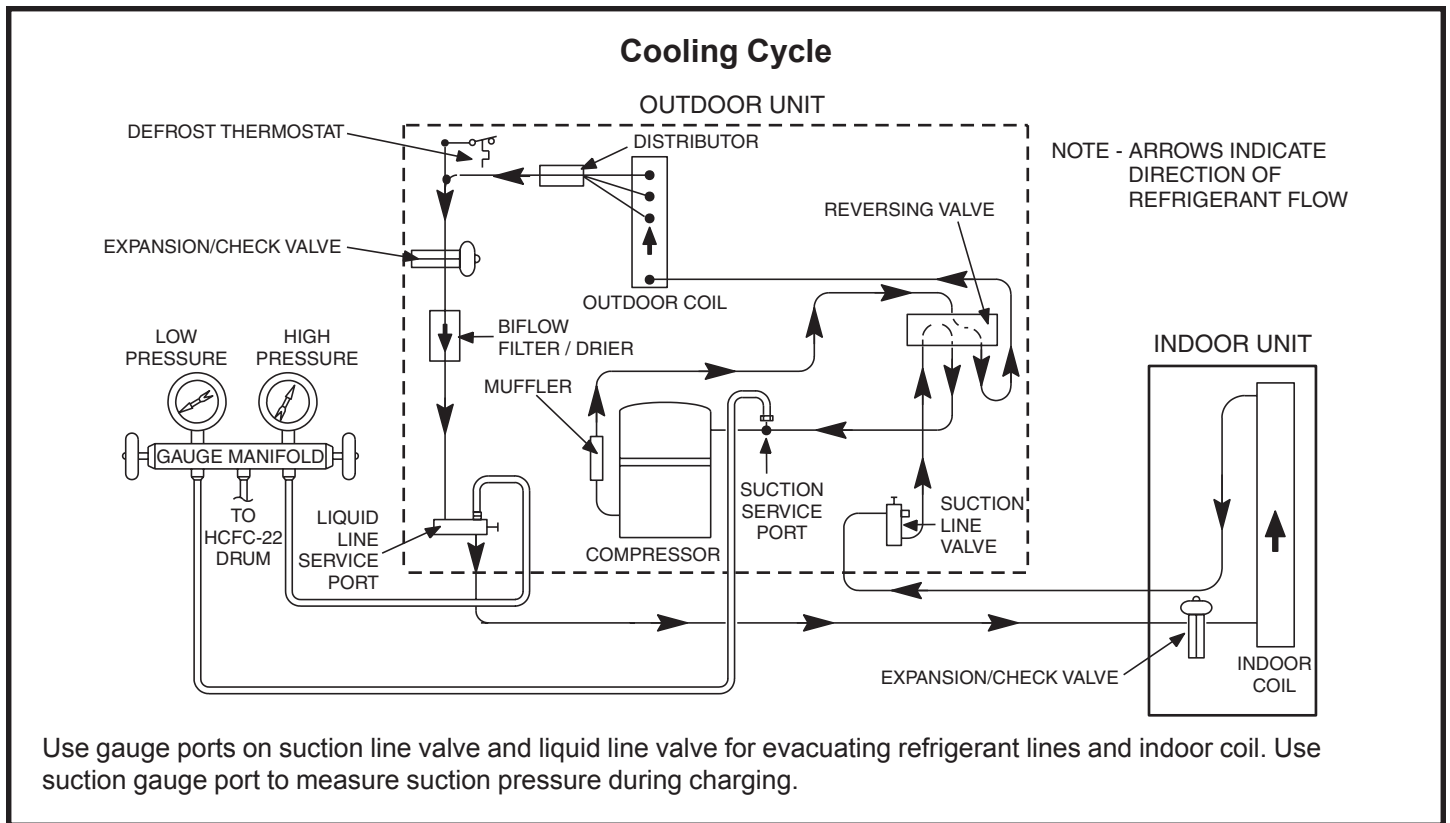

Figure 12
1. Connect the manifold gauge set to the service valve ports as follows (see Figure 12 on page 12):